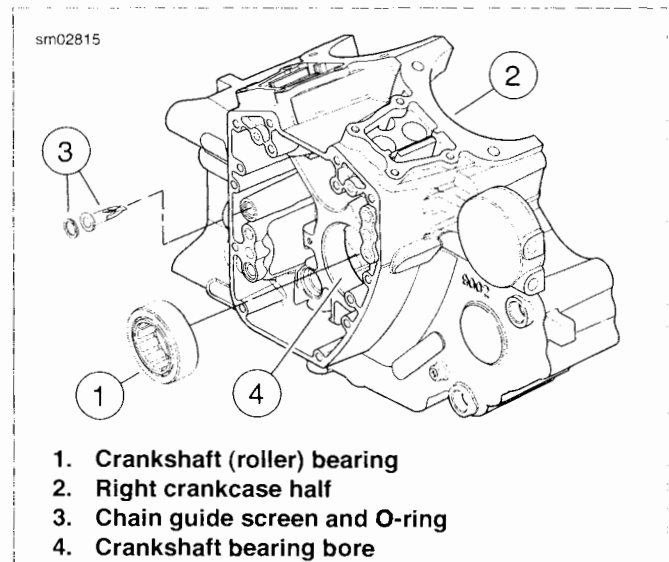

Figure 3-141. Right Crankshaft (Roller) Bearing
See Figure 3-141. Remove, clean and reinstall screen (3). Replace screen o-ring with each removal.